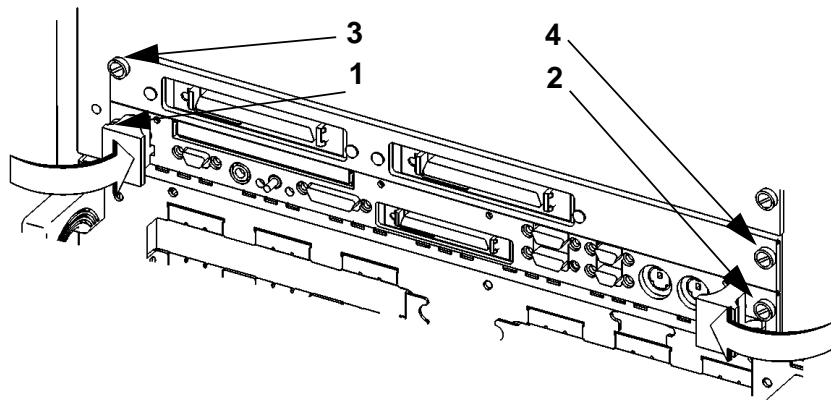

Figure 3-1 **Board Computer Captive Screws**
- 3 Engage and tighten the captive screws (labeled 1 and 2 in Figure 3-1) at each end of the board computer. These screws hold the computer in the VME card cage.
- 2** Engage all captive screws (labeled 1 and 2, 3 and 4, in Figure 3-1) before tightening each screw of the board computer and the extension panel(s).
- 1 Loosen the captive screws at each end of the board computer that hold the computer in the VME card cage (in Figure 3-1, the screws are labeled 1 and 2 for a single slot board computer, or 1 through 4 for a dual slot board computer).